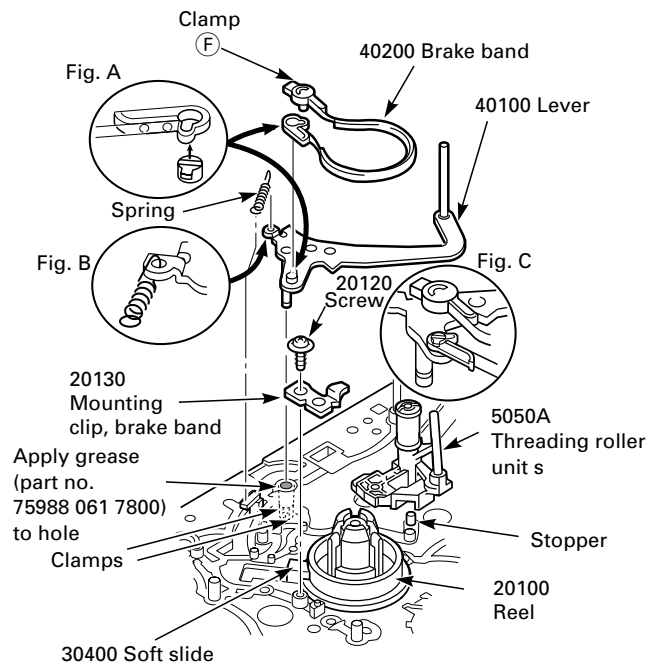

Fig. 8.15
- Undo the screw (Pos. 20120) and remove the mounting clip of the brake band (Pos. 20130, Fig. 8.15).
- Disengage the clamp (F) and remove the brake band (Pos. 40200, Fig. 8.15). Then adjust the other end of the brake band (Pos. 40200) to the protrusion of the lever as shown in Fig. A and take it off (Fig. 8.15).
- When refitting the brake band (Pos. 40200) make sure that its ends are positioned as shown in Fig. C (Fig. 8.15).
- Undo screw (Pos. 20120) and remove the mounting clip of the brake band (Pos. 20130, Fig. 8.15).
- Loosen the clamp ⑥ and detach this end of the brake band (Pos. 40200, Fig. 8.15).